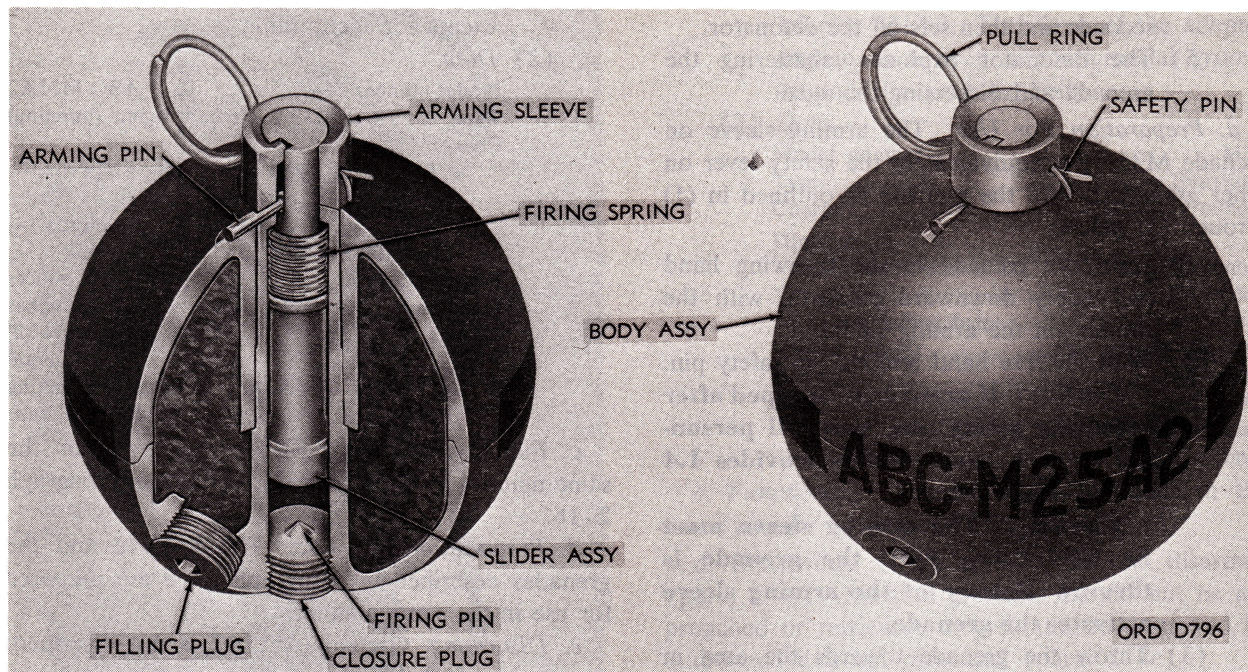

Figure 2-20. Grenade, hand: riot, CN1, ABC-M25A1, w/integral fuze.
a. *General.* CN1 grenade M25A1 and M25A2 (fig. 2-20) are special-purpose, bursting-type munitions used for the control of riots and for training purposes. The grenades are filled with CN-1 (chlor-acetophenone) which causes irritation and watering of the eyes, resulting in temporary, partial, or total blindness.
- (1) *General.* These grenades are spherical, with a diameter slightly less than 3 inches. The body is made of two plastic hemispheres cemented together. An upper half-sleeve and a lower half-sleeve are molded parts of the two plastic hemispheres. The half-sleeves together form a burster well and